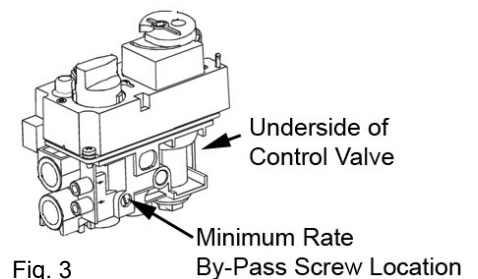

Fig. 3
4. **Remove and replace the minimum rate by-pass screw** from underside of valve (see Fig. 3). The screw has a rubber o-ring holding it into the valve body and may require prying out or removing the screw with needle nose pliers.